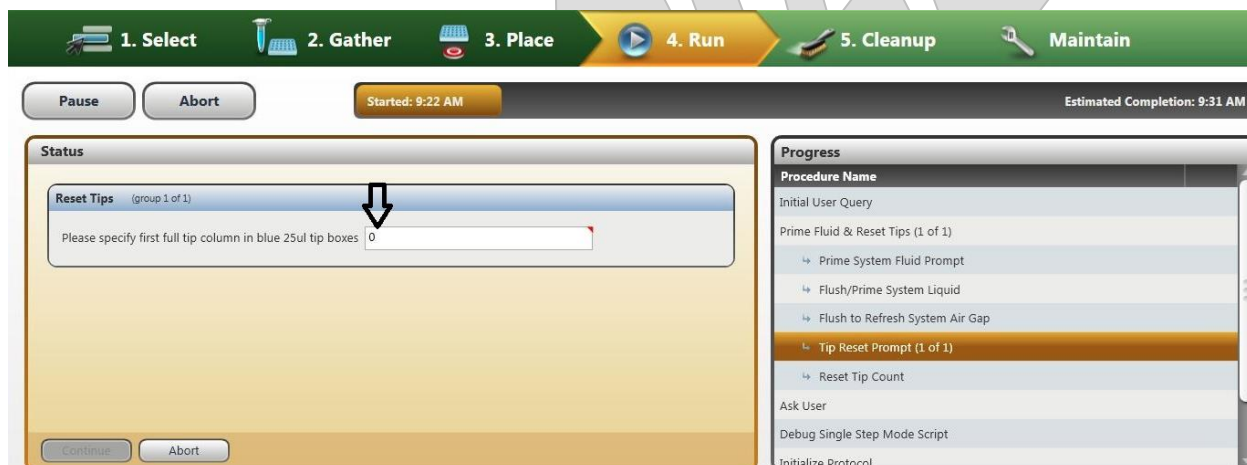
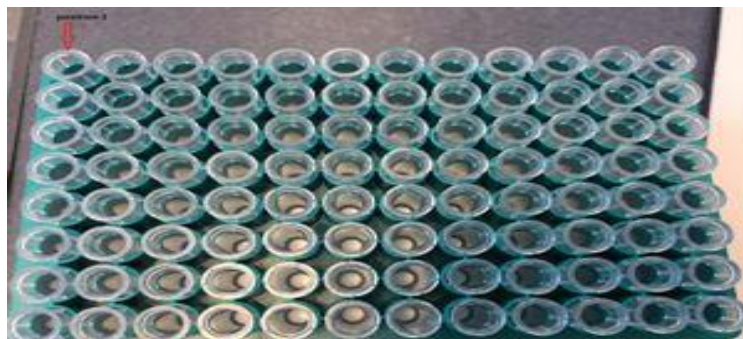

Figure 19: Defining the first full column of tips
Figure 20: Full tip box
4.12. Enter the first full column of tips in the next popup window, as shown in Figure 19. If you indicate 1 this means that the entire tip box is full (see Figure 20).